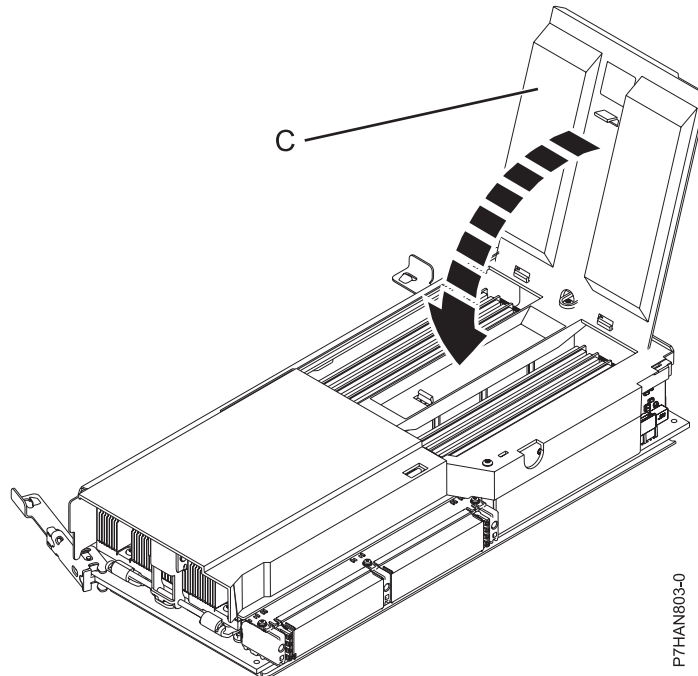

Figure 3. Closing the memory module cover
15. Close the memory module cover (C) until it locks in place, as shown in Figure 3 on page 5.